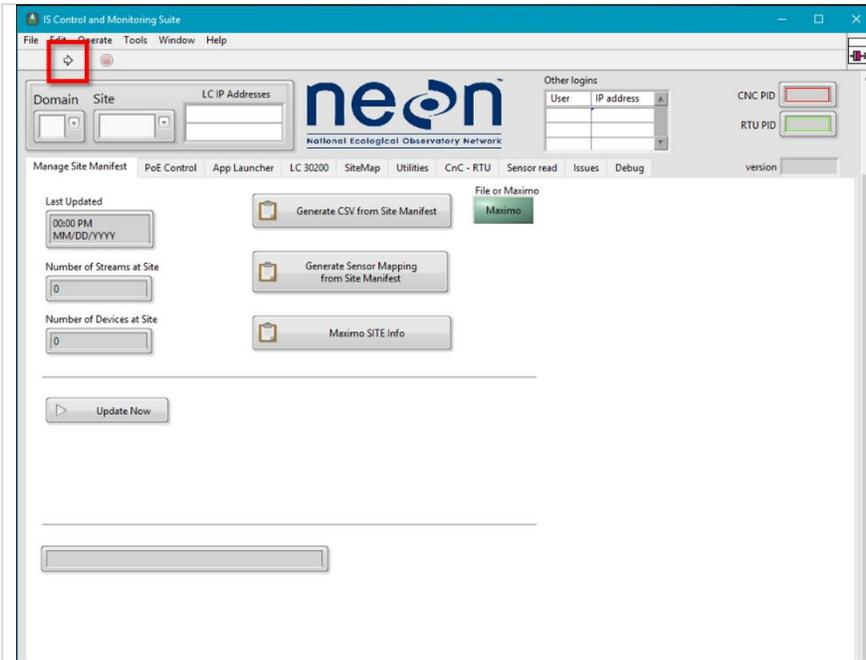
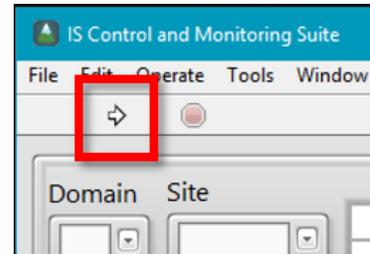

Figure 139. Select the run icon in the upper left hand corner
Figure 140. Close-up of Run Icon
**STEP 1** | Launch the IS Control and Monitoring Suite and select the Run icon in the upper left hand corner of the window (white arrow in **Figure 139** and **Figure 140**).